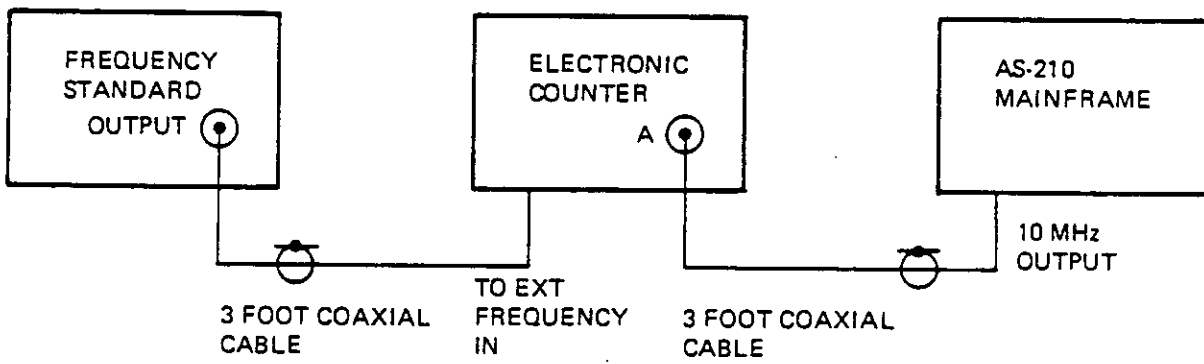

Figure 5.1 AS210 Internal Frequency Standard Test Configuration
- B. Connect the equipment as indicated in Figure 5.1 and apply power to the AS210. The rubidium frequency standard in the AS210 system will require 20 minutes warm-up time to reach the specified frequency accuracy.